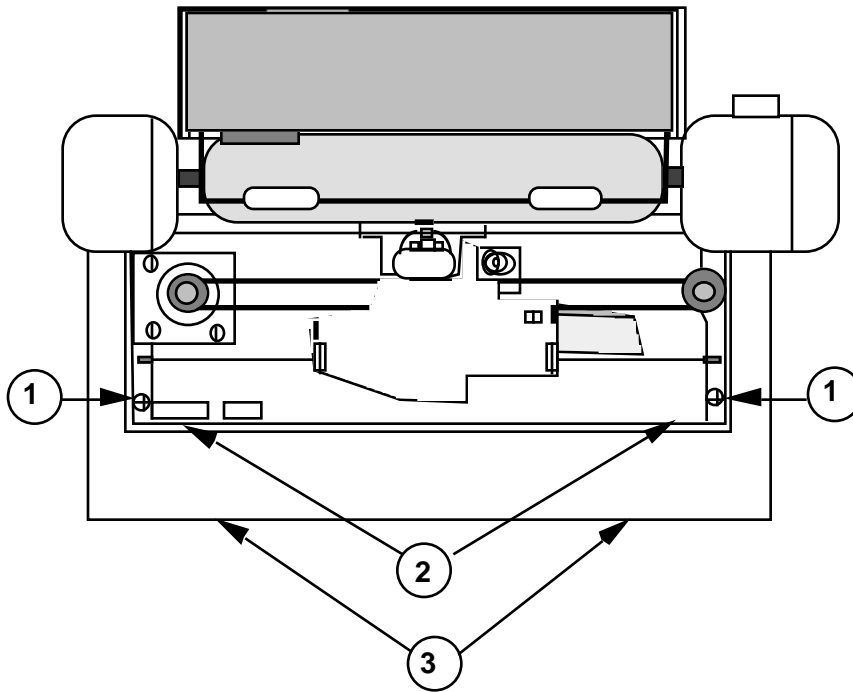

FIGURE 1
3. Loosen the two screws (Figure 1, #1) as far as they will go.
4. Place your fingers over the edge designated by Figure 1, #2, and place your thumbs at the location designated by Figure 1, #3. Gently pull the cover up and toward you until it snaps free. Do not yet remove the cover.
5. Tighten the two screws (Figure 1, #1).